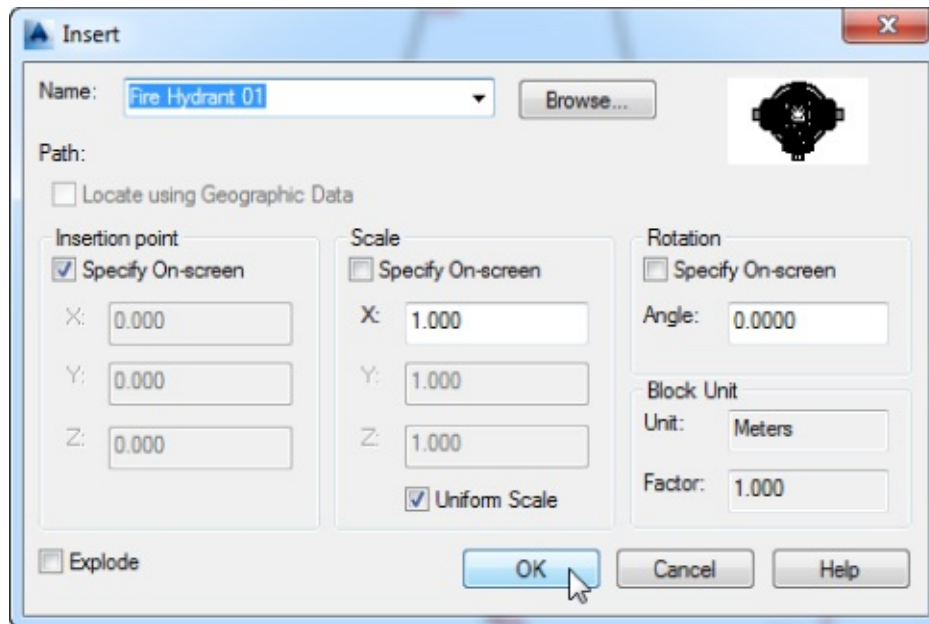

Figure 1.64 Using the Insert command to place a block
11. Verify that your settings match what is shown in Figure 1.64, and click OK.